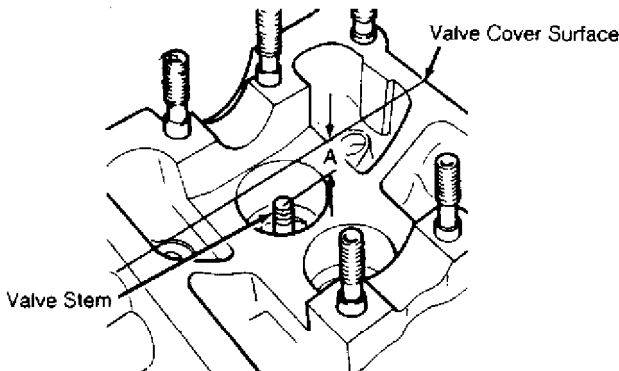

Fig. 14: Measuring Valve Installed Height Courtesy of Volkswagen United States, Inc.
1) Check valve seats before any other cylinder head service. Insert the valve and hold firmly against the valve seat. Measure valve stem tip-to-cylinder head distance. See Fig. 14.